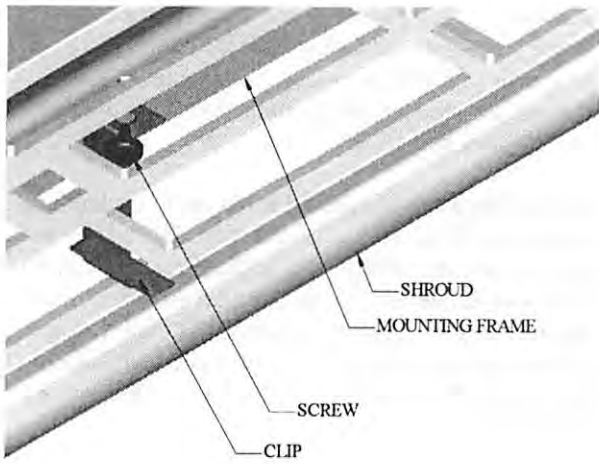

FIGURE 14
- D. Fasten the duct collar to the basepan of the air conditioner with three (3) screws (See Figure 14).
- J. The ceiling assembly shroud is curved to contour to a crowned ceiling. If installation is to a flat ceiling and gaps are present on the sides of the shroud, two metal clips and screws are provided to pull the sides of the shroud flush with ceiling. Position the clips through return air slots on the sides of the shroud and attach the clips to the mounting frame with provided screws (See Figure 14).